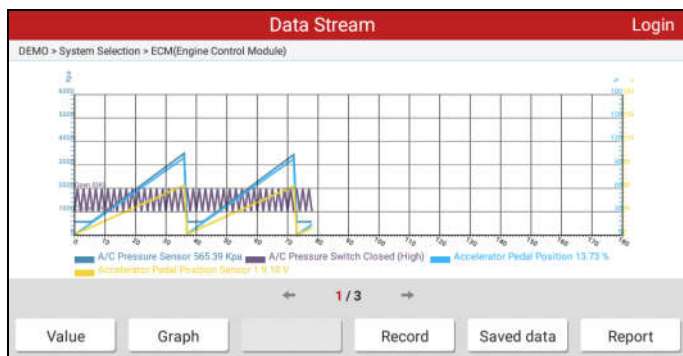

Fig. 5-14
- ✓ **Combine** – this option is mostly used in graph merge status for data comparison. In this case, different items are marked in different colors. See Fig. 5-14.